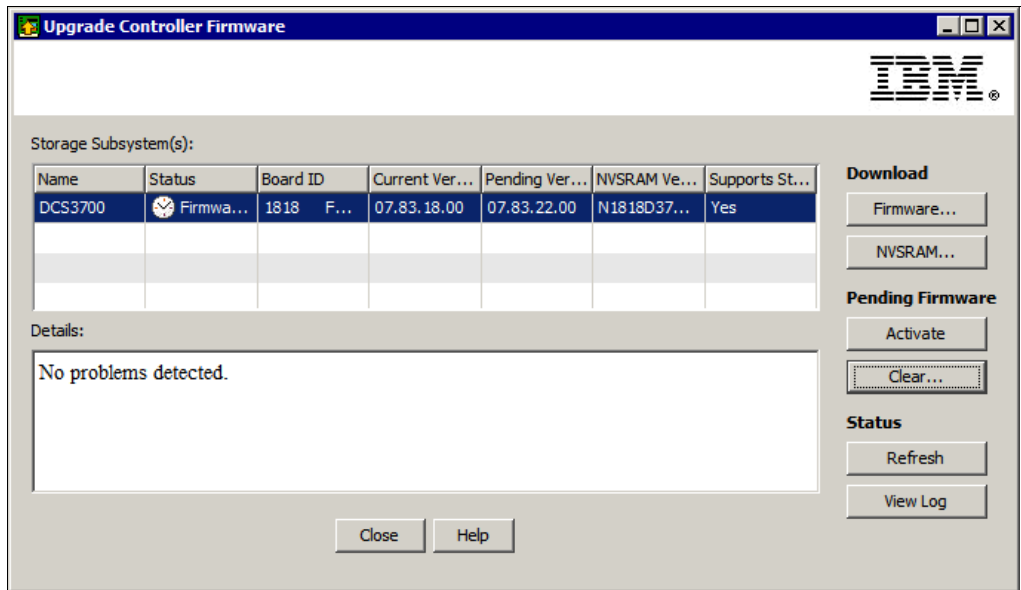

Figure 14-20 Firmware activation pending
- d. Figure 14-20 shows the status after the firmware and NVSRAM are transferred. The status is reported as Firmware pending and the **Activate** button is now functional.